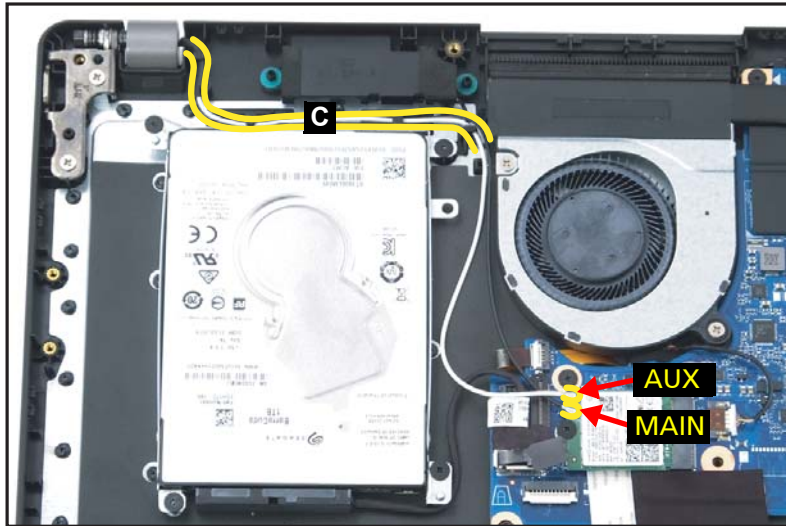

Figure 1-98. Replacing the LCD Module
5. Route the WLAN antennas through the cable guides (C) (Figure 1-98).
6. Connect the AUX antenna (white-color) to the WLAN AUX pin as shown in Figure 1-98.
7. Connect the MAIN antenna (black-color) to the WLAN MAIN pin as shown in Figure 1-98.